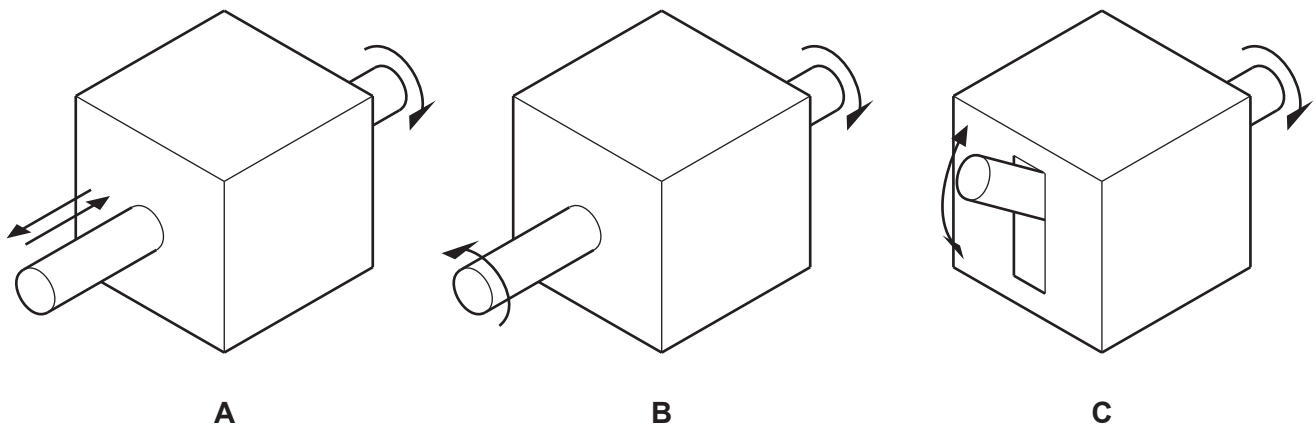

Fig. 9.1
- 9 (a) Fig. 9.1 shows three boxes, **A**, **B** and **C**, which house different mechanisms.